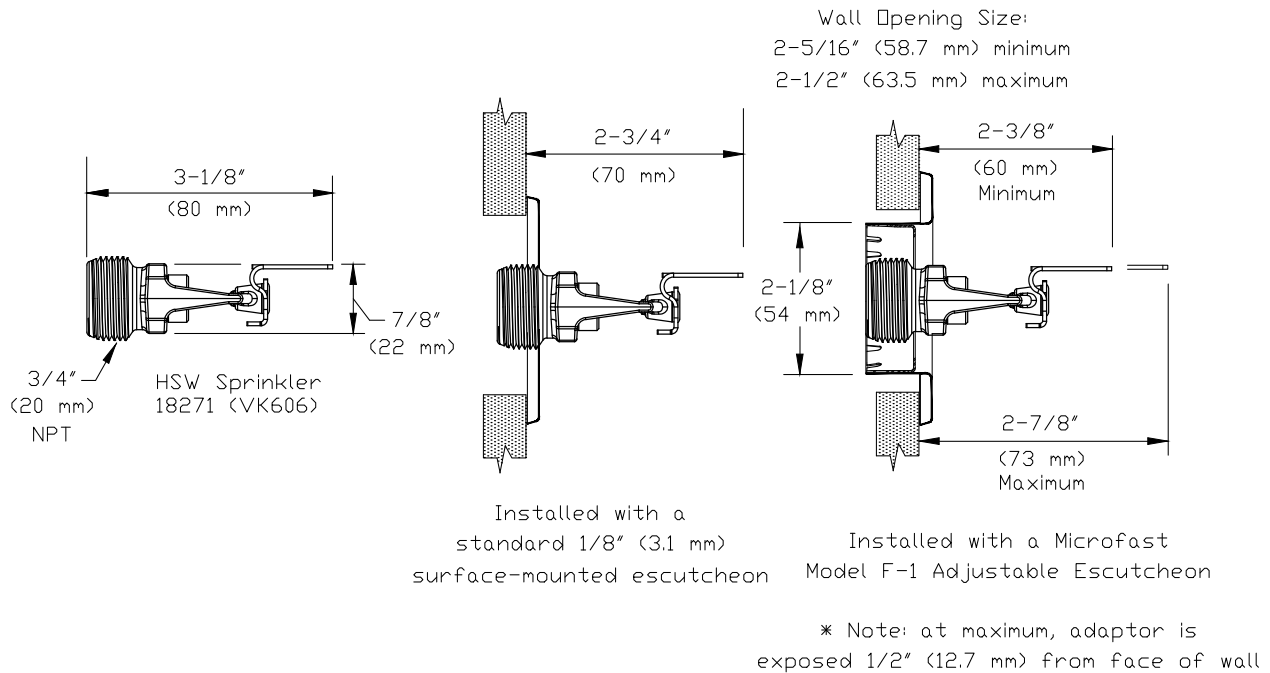

Figure 3:
- Refer to Approval Chart 1 for required deflector distance below the ceiling. Install with the leading edge of the deflector and sprinkler frame arms oriented parallel to the ceiling (see Figure 3). **THE TOP SURFACE OF THE DEFLECTOR IS MARKED "TOP"**. The sprinkler must be oriented as shown in Figure 3.